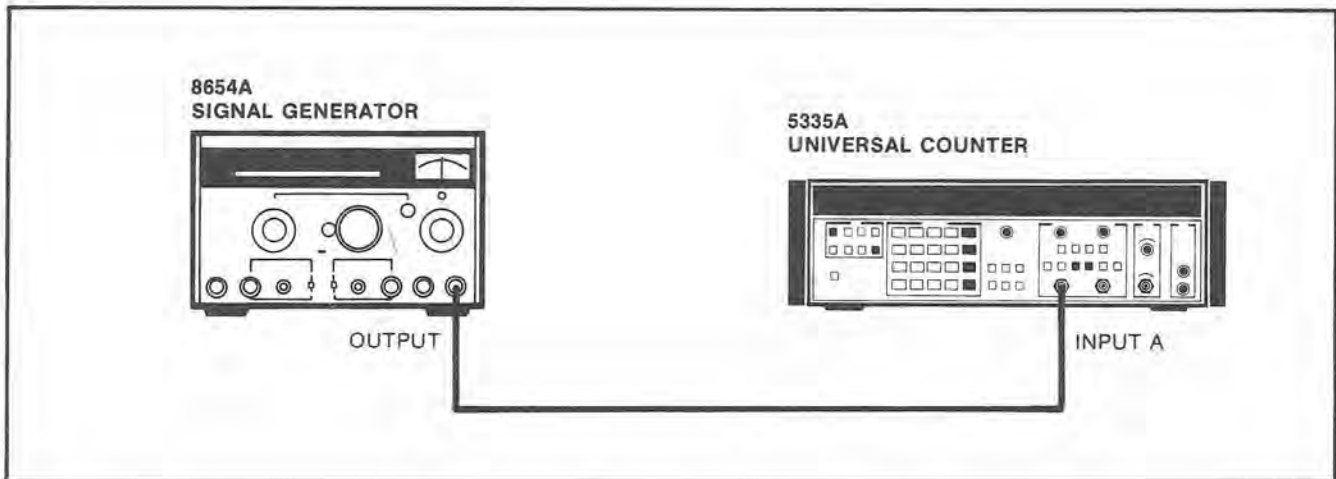

Figure 4-8. Channel A Frequency Response and Sensitivity Test Setup (200 MHz)
l. Connect the HP 8654A Signal Generator to the 5335A INPUT A as shown in *Figure 4-8*.